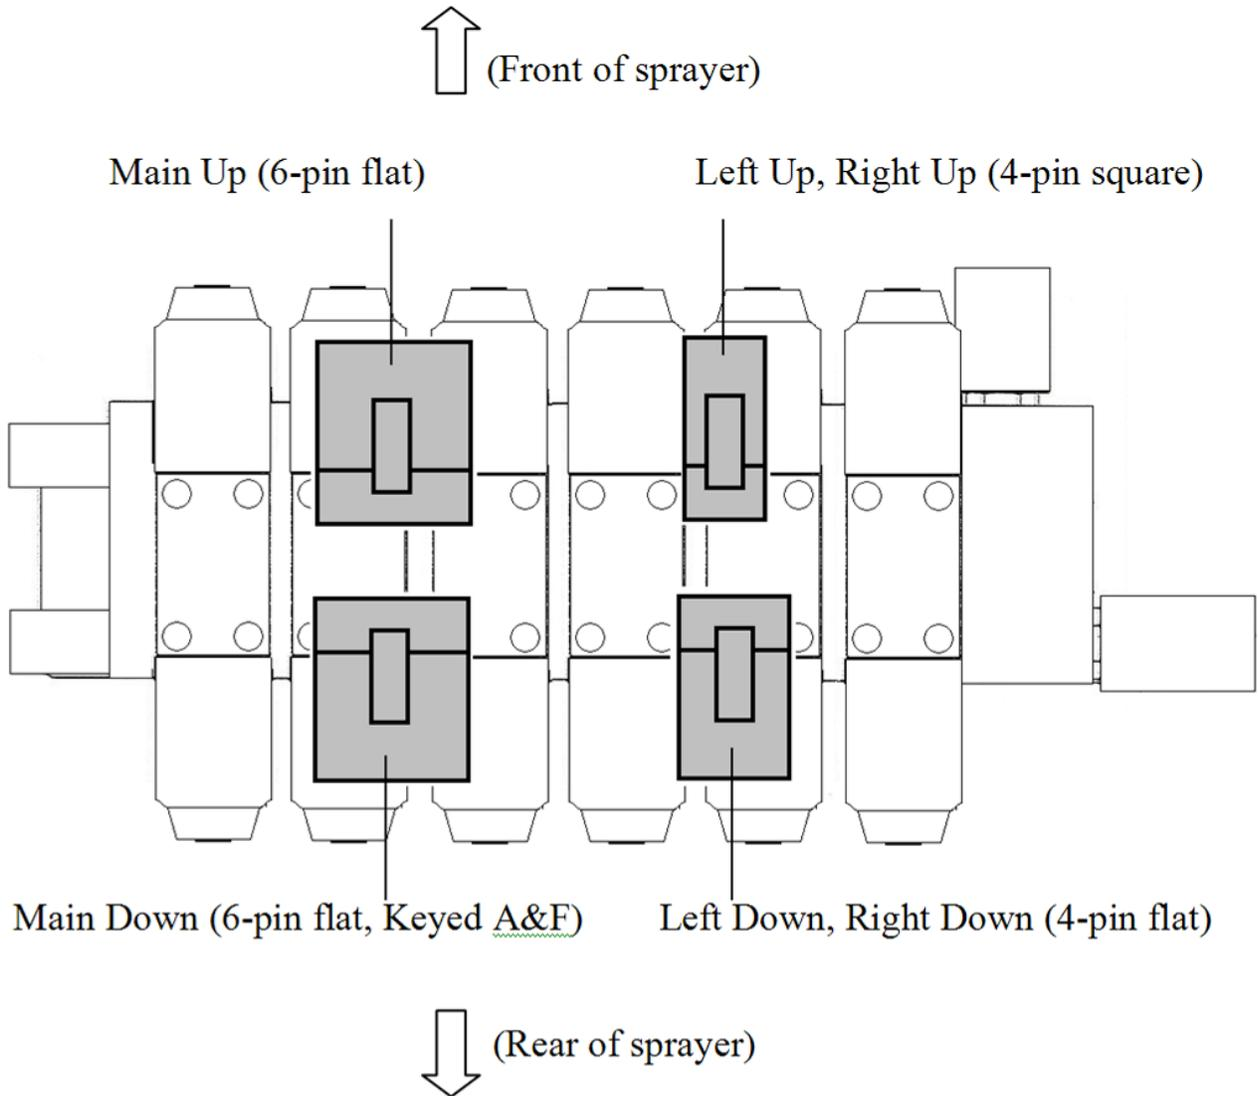

Figure 35: Early-Model John Deere Boom Valve Block (top view) with Connectors Labelled. (Valve may be different than illustrated.)
10. Connect the modified harness to the sprayer as indicated in **Figure 35**.